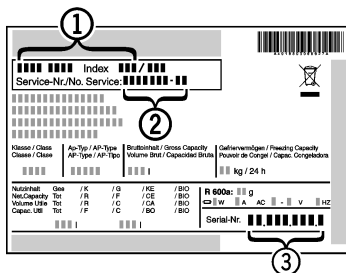

Fig. 6
- ▶ Read the appliance designation *Fig. 6 (1)*, service No. *Fig. 6 (2)* and serial No. *Fig. 6 (3)* off the type plate located inside the appliance on the left-hand side.
- ▶ Notify the customer service, specifying the fault, appliance designation *Fig. 6 (1)*, service No. *Fig. 6 (2)* and serial No. *Fig. 6 (3)*.